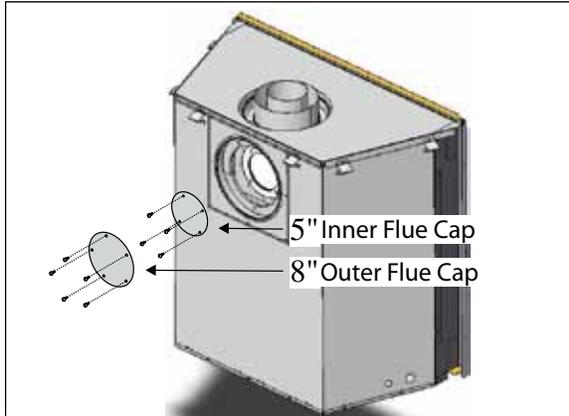

Figure 7a. Flue cap installation for Top Vented fireplace.
1. Install the 5" inner flue cap on the rear flue outlet and secure the cap in place with five screws, as shown in figure 7a.